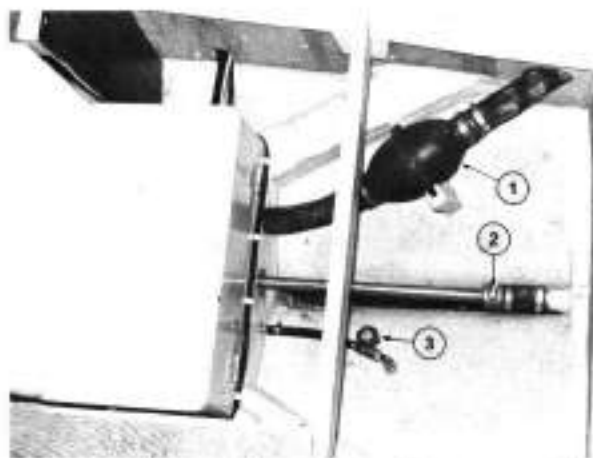

Fig. 5. Propeller shaft oil pocket and cooling water seacock
5. Check that the cooling water seacock is open (fig. 5).
8. Unscrew the plug on the propeller shaft oil pocket (fig. 5) and check that it is almost filled with grease. Fill with more grease if necessary. A soft outboard grease is most suitable. The grease is pressed directly from the tube until the oil pocket is almost full. Do not use high pressure. A grease gun must never be used as this may press out the forward sealing ring. Do not overfill the oil pocket as even screwing down the plug may exert enough pressure to push out the sealing ring.